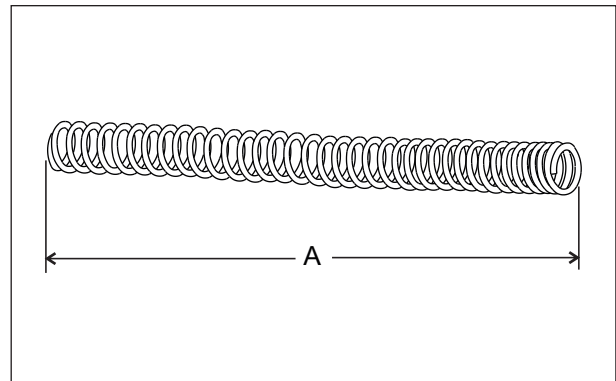

Fig. 6.62
- Measure the free length (A) of the spring front fork. If the length is shorter than service limit or deformation of spring, replace it with a new one. (Fig. 6.62)